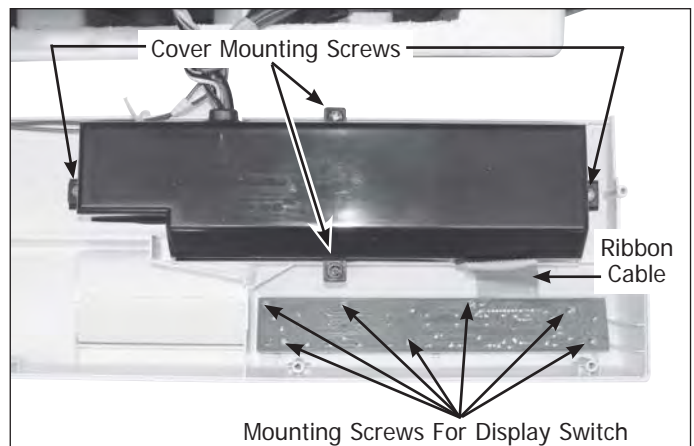

Figure 4-3.
4. Extract the four screws securing control cover to console. (See Figure 4-3)
6. Extract mounting screws securing display board to console. (See Figure 4-3)